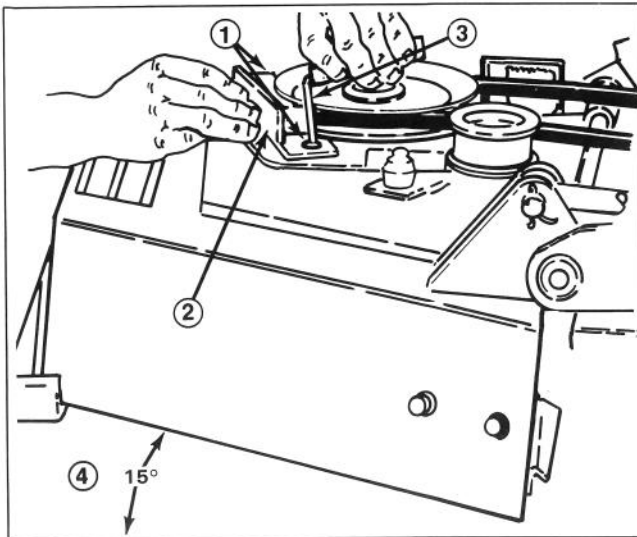

Figure 33
1. Raise wing to be adjusted, 15 degrees (Use a magnetically mounted compass) and loosen brake pad capscrews with Allen wrench (Fig. 33). Push brake pad against pulley with one hand and tighten capscrews with the other hand.